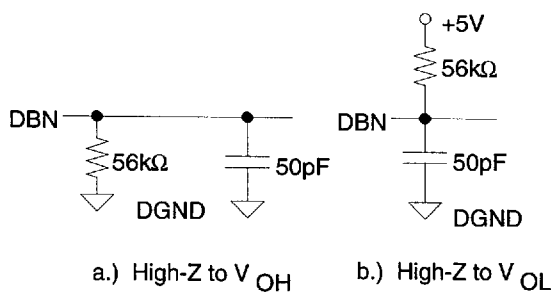

Figure 5. Load Circuits for Access Time
9. Measured with the load circuits of Figure 5 and defined as the time required for an output to cross 0.8V or 2.4V.